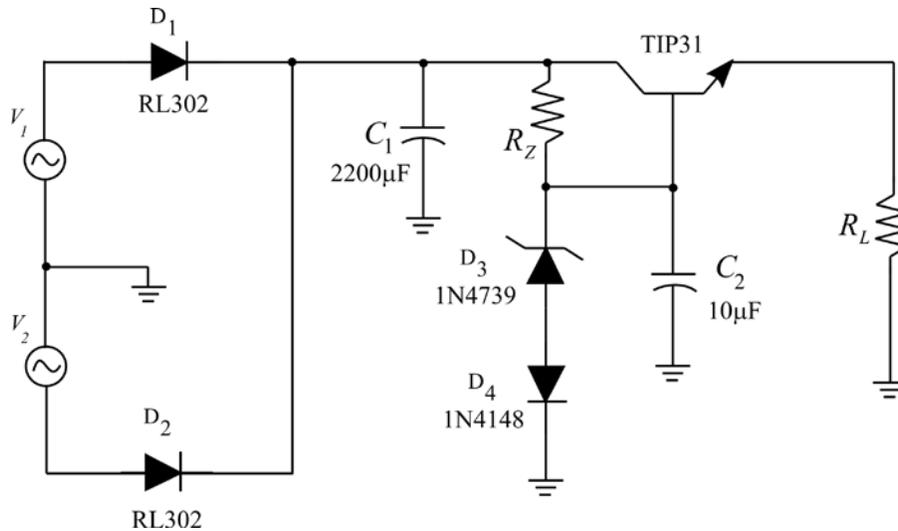

Figure 1: A 9.1 volt power supply with series-pass regulator.
For the purposes of this experiment, we will work with the full-wave rectifier circuit we studied in Experiment 2. We will design a series-pass regulator to provide approximately 9.1 VDC @ 400 mA. The desired circuit is shown in Figure 1. Since more load current is required, we will use two RL203 (2 Amp) diodes. The forward diode drop will be approximately the same as  $V_F$  was for the 1N4002 diode.
Referring to Figure 1, the circuit works as follows. Diode D3 has a Zener voltage that is nominally 9.1 volts, and the series diode D4 is used for two reasons:
Capacitor  $C_2$  serves three purposes. First, it helps attenuate noise generated by the Zener diode  $D_3$ . Second, it provides a “stiff” bypass for the base to improve transient response of the regulator. (Note that this also helps lower the small-signal output impedance of the regulator.) Third, and perhaps most important, it reduces the 120 Hz ripple that makes it past the Zener. In fact, it is not unusual for a good regulator to suppress power supply ripple by a factor of 50. The two voltage sources in Figure 1 represent the two sides of the center tapped transformer.
1. Construct the circuit of Figure 1 using parts in the laboratory.